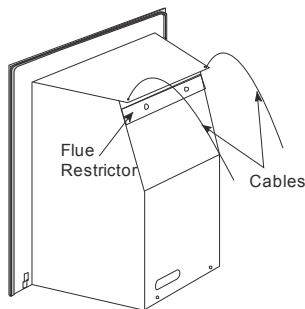

Figure 56
4. Unpack the cable fixing kit and feed the cable ends through the top holes on the sides of the flue outlet (see **Figure 56**).
5. If fitting the fire into a 125mm flue system, remove the **flue restrictor** (see **Figure 56**).